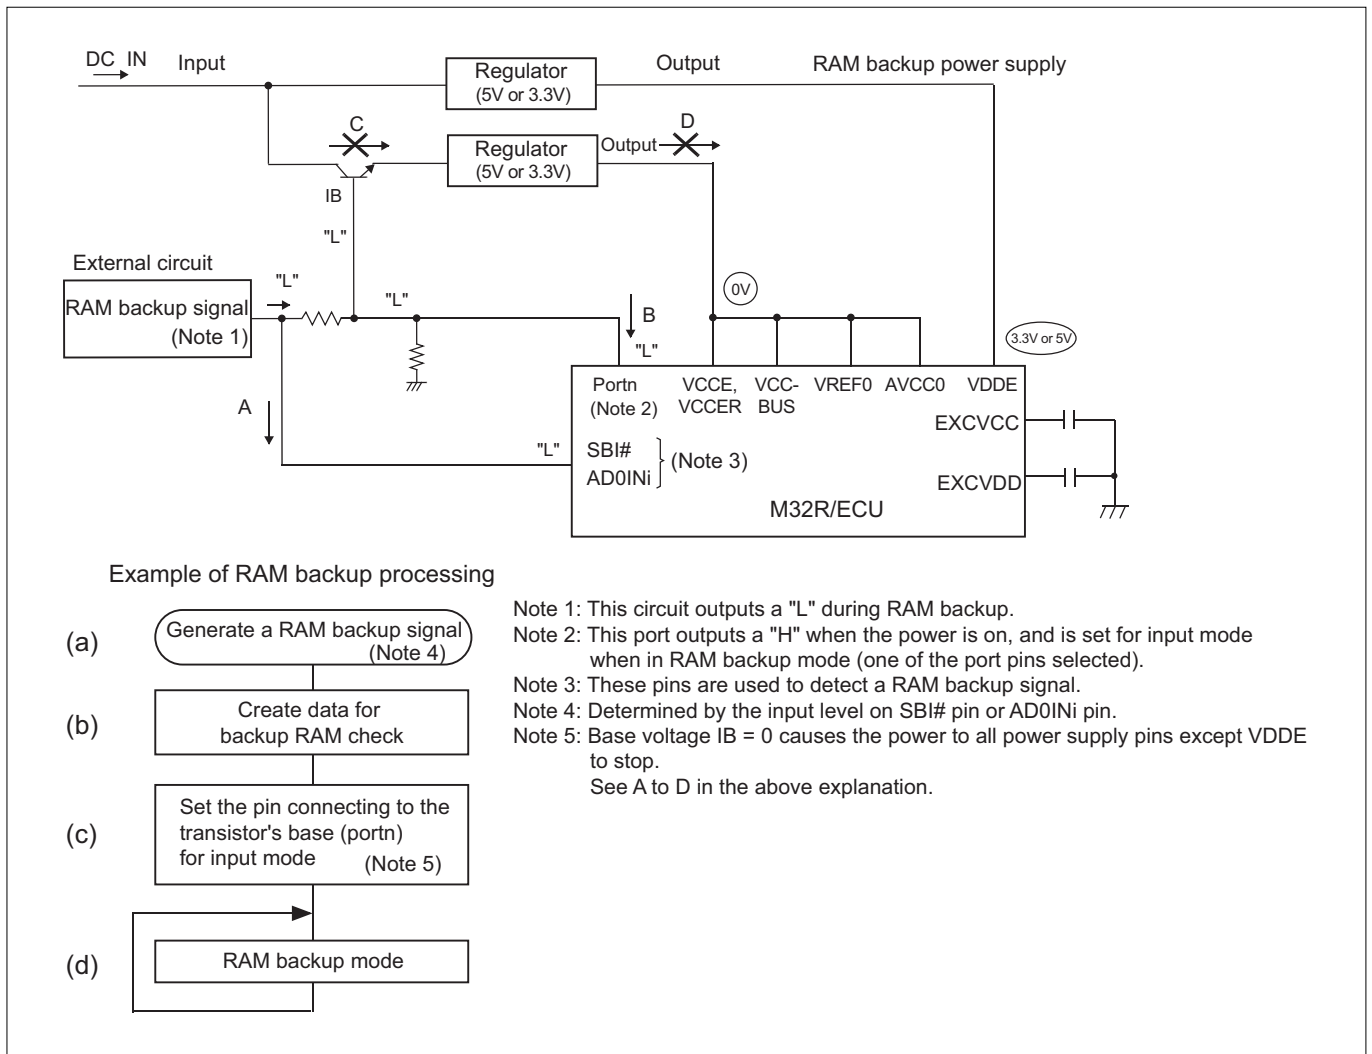
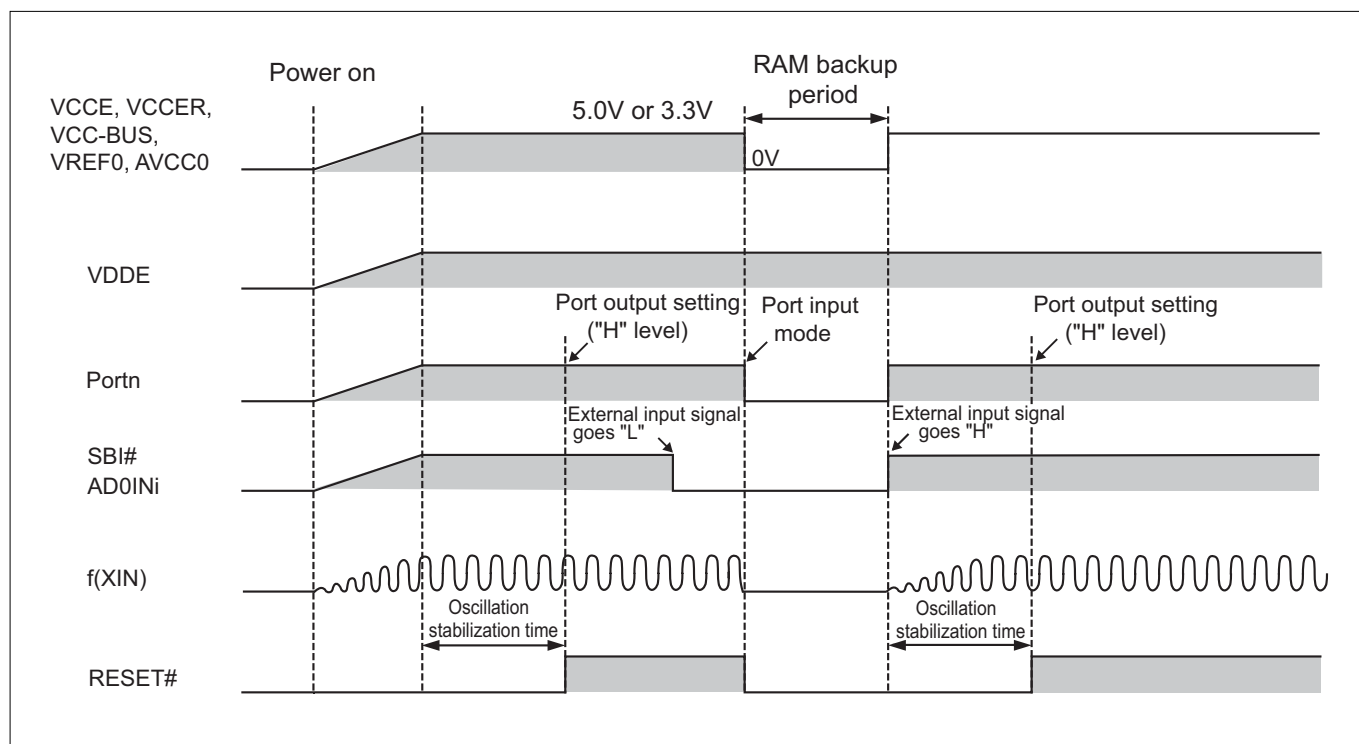

Figure 19.3.3 RAM Backup State for Low Power Operation
Figure 19.3.4 Example of a RAM Backup Sequence for Low Power Operation
Figure 19.3.3 shows the RAM backup state of the M32R/ECU. Figure 19.3.4 shows a RAM backup sequence. When the external circuit outputs a "L," input on the SBI# or AD0INi pin is pulled "L." An "L" on these input pins generates a RAM backup signal (A and (a) in Figure 19.3.3). To enable RAM backup mode, make the following settings:
- (1) Create data for RAM check to verify after returning from RAM backup mode to normal mode whether the RAM data has been retained normally ((b) in Figure 19.3.3).
- (2) To materialize low-power operation, set all programmable input/output pins except portn for input mode (or for output mode, with the output level fixed "L") ((c) in Figure 19.3.3).
- (3) Set portn for input mode (B and (d) in Figure 19.3.3). This causes the transistor's base voltage, IB, to go "L," so that the power to all power supply pins except VDDE is shut off (C and D in Figure 19.3.3).
By settings in (1) to (3), the VDDE pin voltage goes to 3.0–5.5 V and all other pin voltages drop to 0 V, and the M32R/ECU is thereby placed in RAM backup mode ((d) in Figure 19.3.3).